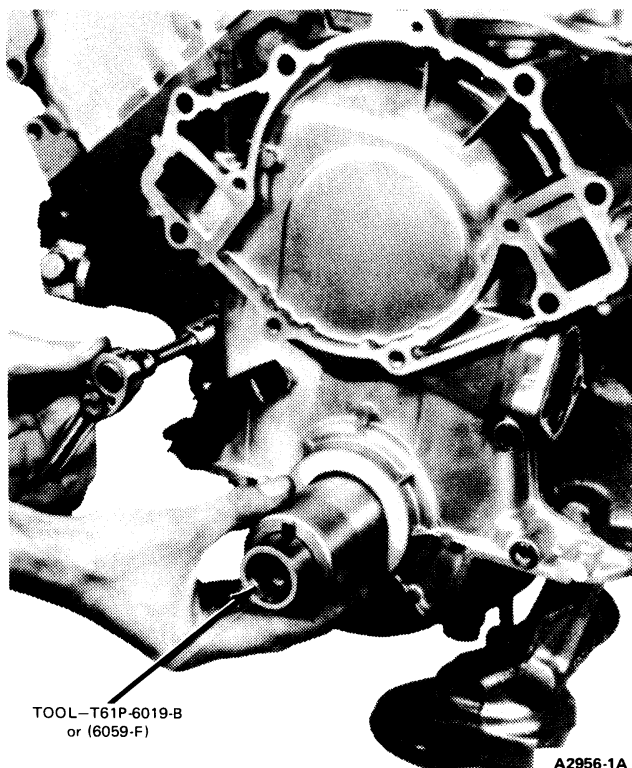

FIG. 23 Aligning Cylinder Front Cover
7. Install the cylinder front cover to seal alignment tool into proper position (Fig. 23). It may be necessary to force the cover downward in a manner to slightly compress the pan seal. This operation can be facilitated by using a suitable tool at the attaching bolt hole locations.
9. While pushing in on the alignment tool (Fig. 23) tighten the oil pan to cover attaching bolts to specifications listed at the end of this Part. Remove alignment tool. Tighten the cover to cylinder block attaching screws.